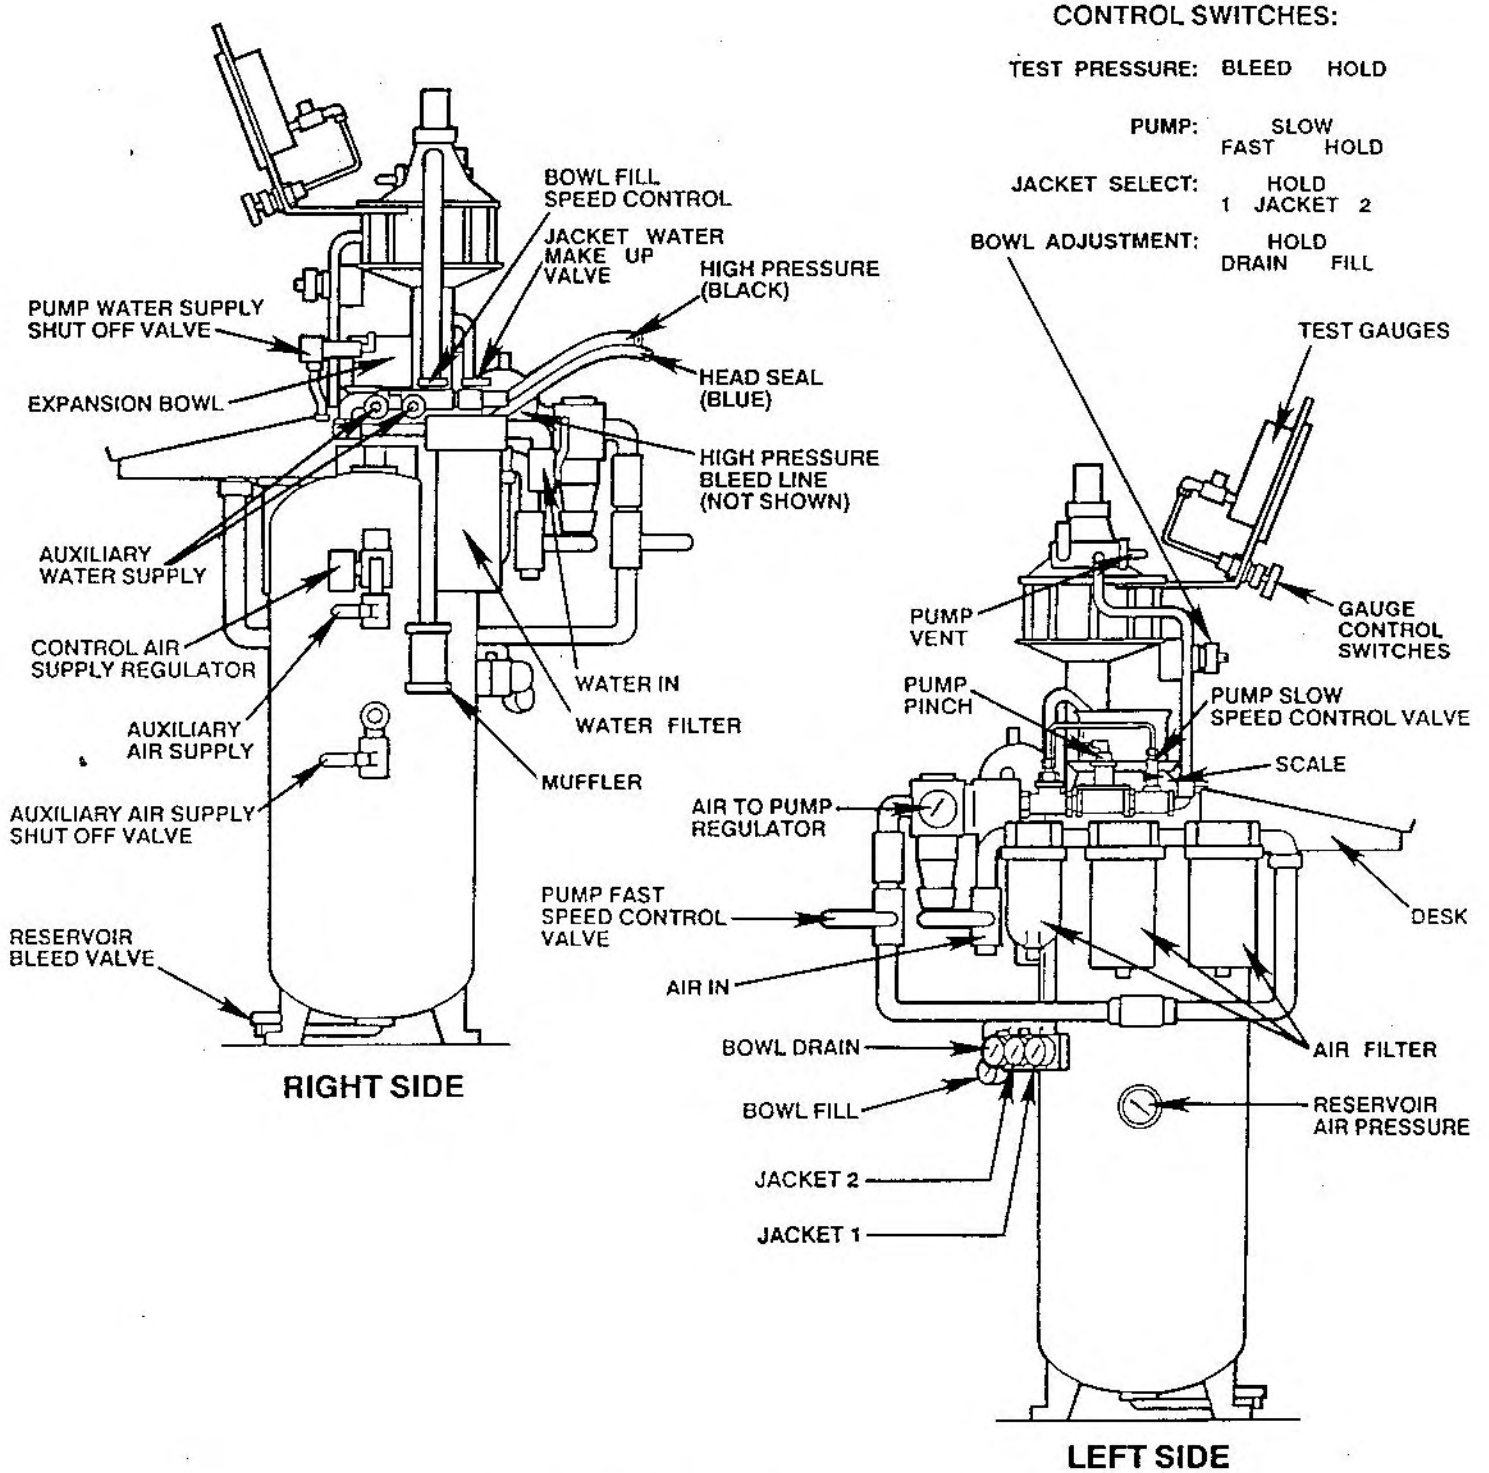

FIGURE 5) PLUMBING INSTALLATION PRESSTEST-(P) CONTROL CONSOLE
10. Connect the air and water supply lines to the control console as shown in Figure 5 (see following page). Make certain that both the Air In valve and the Water In valve are closed.
12. Connect a bleed line to the high pressure bleed port on the control console, using the supplied stainless /or copper tubing (see Figure 5). The bleed line should be run to the test pit or drain to prevent water from draining on to the shop floor.
13. Connect the Jacket 1 Expansion Line and the Jacket 2 Expansion Line from the control console to the corresponding test jackets (see Figure 5).
4. Locate the "Air To Pump Regulator" on the Presstest control console (see Figure 5). Adjust the Air To Pump Regulator to allow the pump to achieve the appropriate pressure.